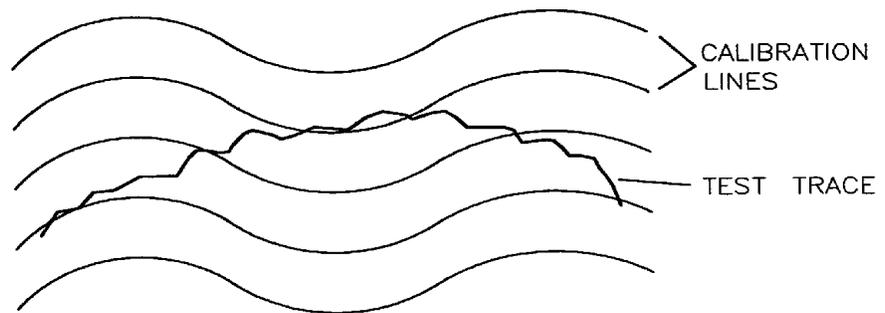
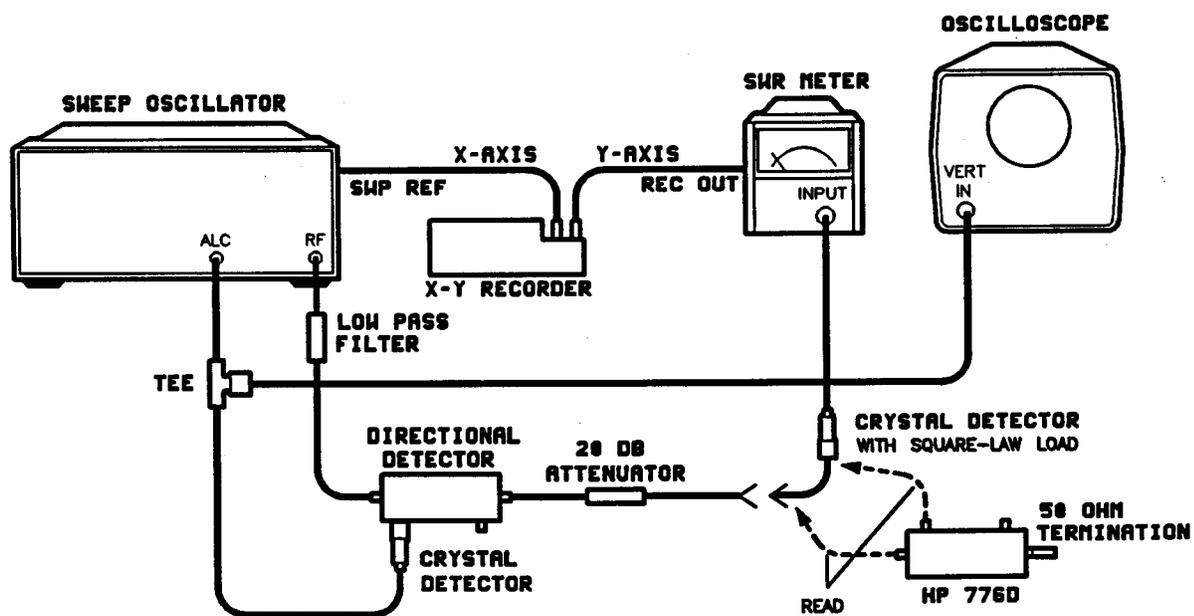

Figure 4 Coupling Test Setup
Figure 5 Coupling Test Trace
1. Set up the equipment as shown in Figure 5.
10. Adjust the gain of the SWR meter for an indication of 1 dB. Remove the 20 dB attenuator and insert the 776D under test, as shown in Figure 4. Run a test trace. See Figure 5. The test trace should have a variation of less than ± 1 dB and the mean coupling should be between 19.5 and 20.5 dB.